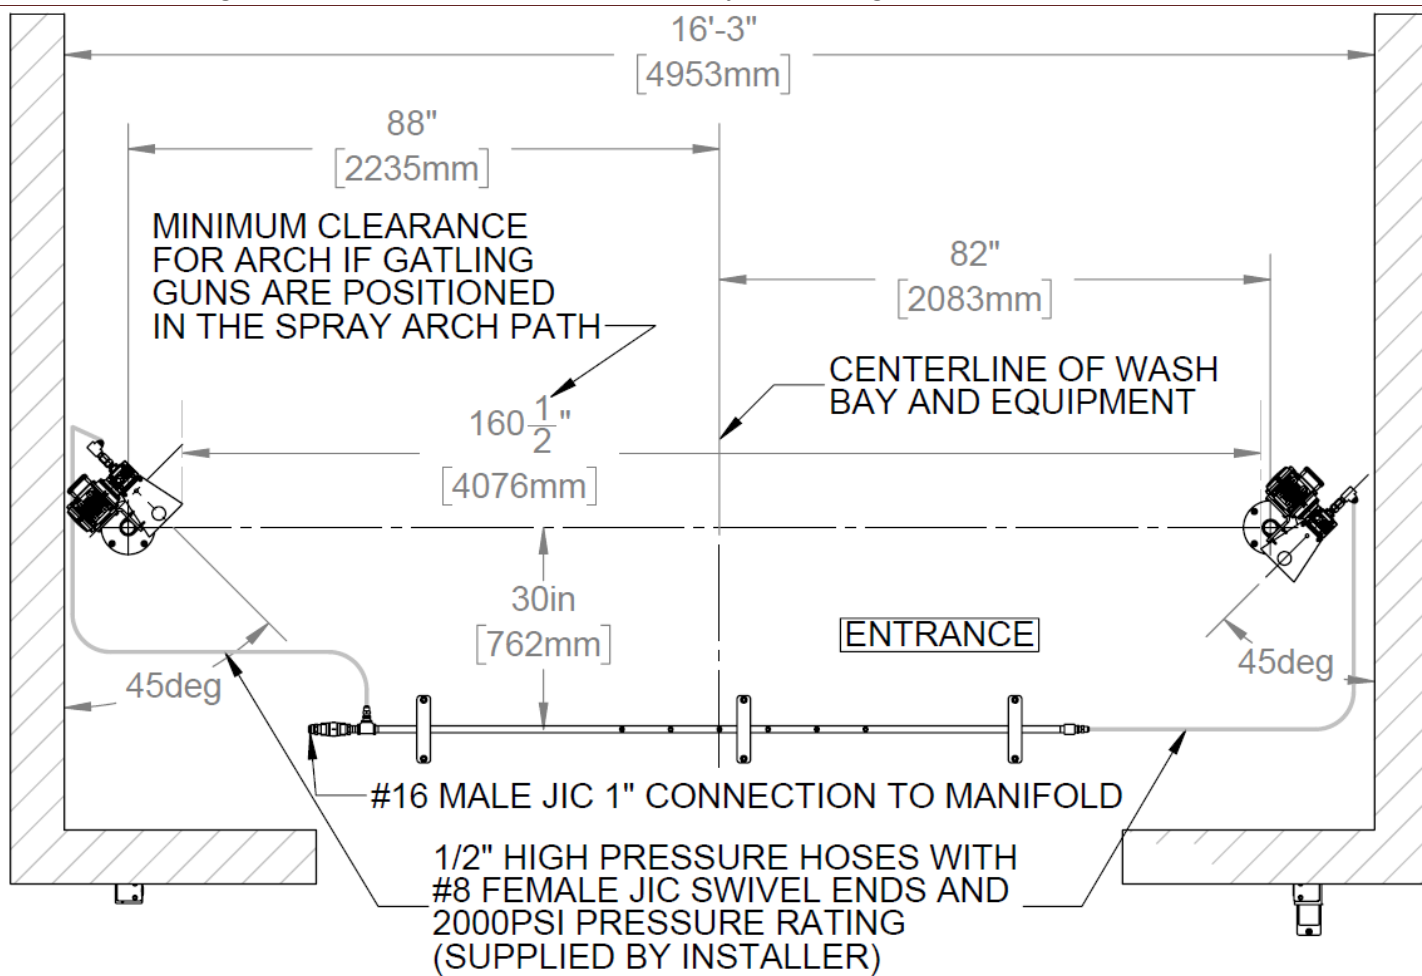

Figure 119 - Gatling Gun System Location - MINIMUM SIZE WASH BAY
- Figure 119 shows the minimum and recommended location for positioning the underbody and Gatling Guns in the wash bay. Figure 119 is shown with the narrowest permissible wash bay where Gatling Guns could be installed anywhere within the bay without interfering with the wash envelope.